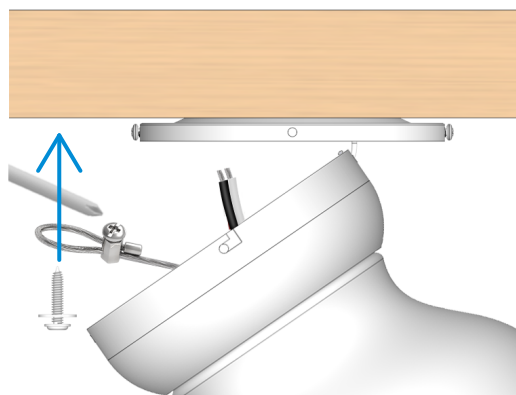

Fig. 5.3
**Option 2:** Refer to Fig. 5.3. Thread a screw, accompanied by a washer (both not included), through the center of the safety rope. Fasten the screw to the ceiling and then loosen the screw on the safety rope lock using a screwdriver. Pull the safety rope taut and then tighten the screw on the safety rope lock to securely anchor the safety rope to the fixed screw on the ceiling. Always double-check to ensure the safety rope is taut.